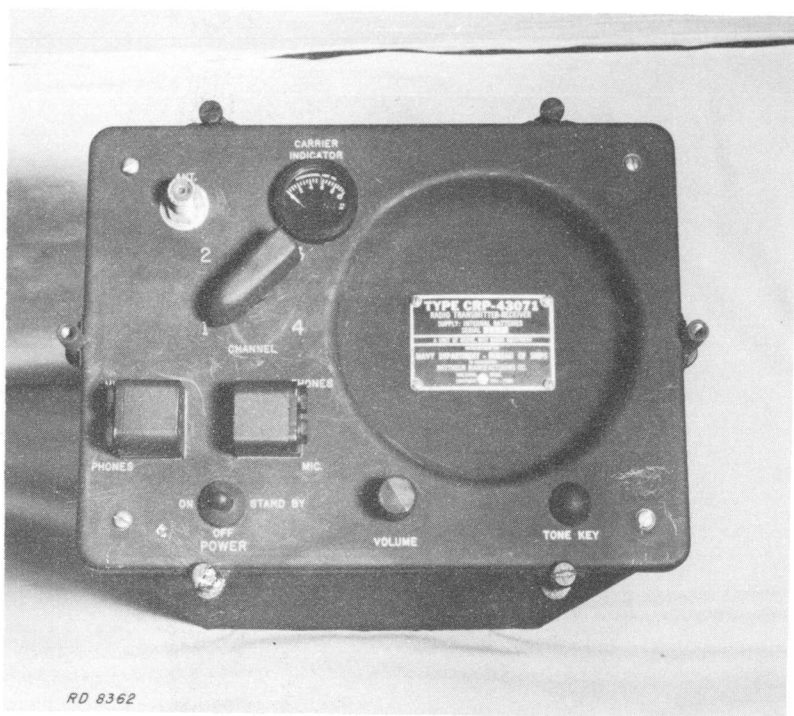

Figure 17.—Operating controls.
b. The controls for the receiver-transmitter are illustrated in Figure 17; their functions are described in the following chart: